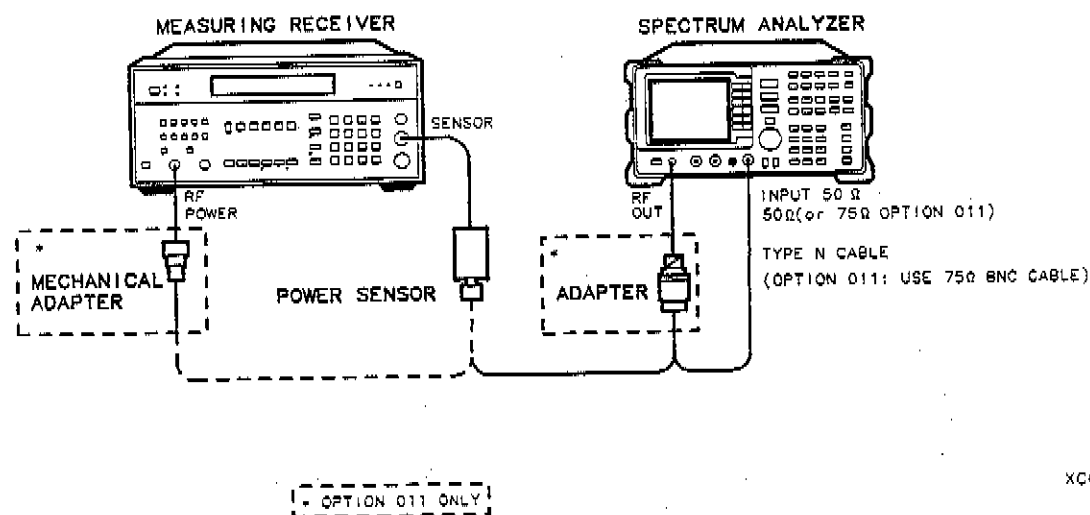

Figure 1-31. Tracking Generator Level Flatness Test Setup
1. Connect the Type N cable between the RF OUT 50 Ω and INPUT 50 Ω connectors on the spectrum analyzer. See Figure 1-31.